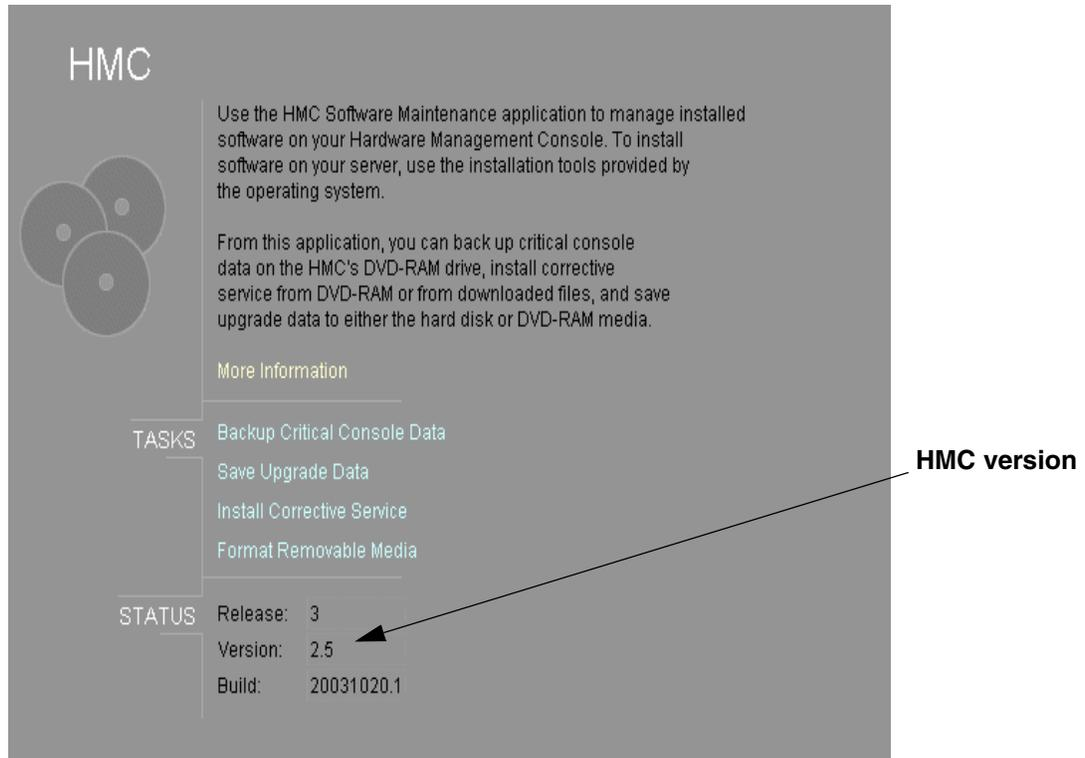

Figure 4-5 Checking the version of the HMC
4. Check the version and the build date of the HMC Code by selecting **HMC Maintenance -> HMC** (see Figure 4-5 on page 155).